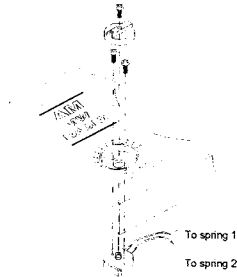

Figure 11
- Mount the tuning Capacitor from the bottom of the panel and position it as shown in Figure 11.
- Turn the Panel over and on the bottom connect the Tuning Capacitor leads to terminals 1 and 2. (See Figure 11.)